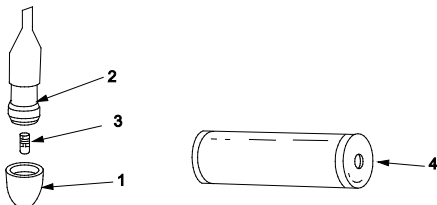
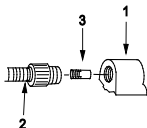

Figure 1. Replacing M51 Instrument Light.
Figure 2. Bracket Light Lamp Removal and Installation.
1. To remove hand light lamp, unscrew cap (Figure 1, Item 1) from lead wire (Figure 1, Item 2).
2. Unscrew lamp (Figure 1, Item 3) from lead wire (Figure 1, Item 2). Use lamp holder extractor (Figure 1, Item 4) stored in accessory case.
1. Push glass bulb of lamp (Figure 1, Item 3) into lamp extractor (Figure 1, Item 4).
2. Screw lamp (Figure 1, Item 3) into lead wire (Figure 1, Item 2) and remove lamp extractor (Figure 1, Item 4).
3. Screw cap (Figure 1, Item 2) onto lead wire (Figure 1, Item 2).
1. To remove bracket light lamp, unscrew light bracket (Figure 2, Item 1) from lead cable (Figure 2, Item 2).
2. Unscrew lamp (Figure 2, Item 3) from lead cable (Figure 2, Item 2) and use lamp extractor (Figure 1, Item 4) stored in accessory case.
1. Push glass bulb of lamp (Figure 2, Item 3) into lamp extractor (Figure 1, Item 4).
2. Screw lamp (Figure 2, Item 3) into lead cable (Figure 2, Item 2) and remove lamp extractor (Figure 1, Item 4).
3. Screw light bracket (Figure 2, Item 1) onto lead cable (Figure 2, Item 2).